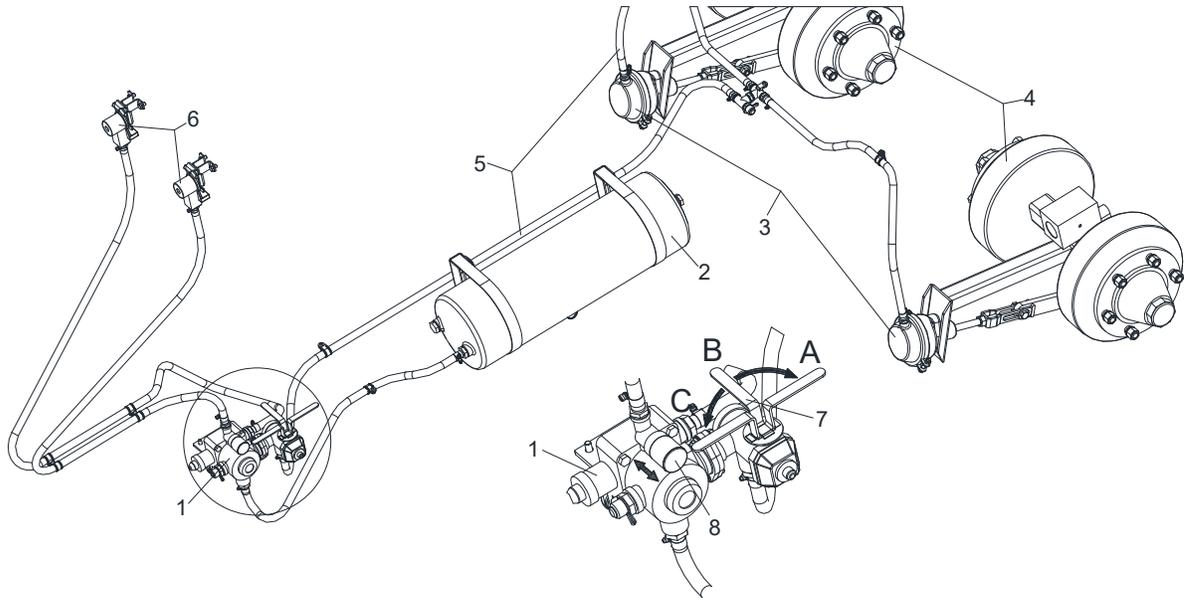

Fig. 22 Air brake system
- Brake valve (Fig. 22/1) with test connection (Fig. 22/8) and brake force regulator (Fig. 22/7)
- Compressed air reservoir (Fig. 22/2).
- Diaphragm cylinder (Fig. 22/3)
- Brake axles (Fig. 22/4)
- Couplings (Fig. 22/6) Supply line / brake line